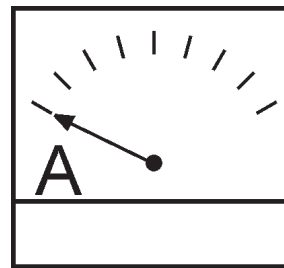

Figure 47. Ammeter (No Load)
- The ammeter (Figure 47) will indicate zero amps with no load applied. When a load is applied, this meter will indicate the amount of current that the load is drawing from the generator.